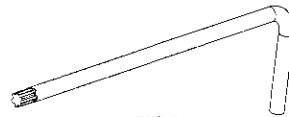

FIG.1
2. Remove the Torx screw, using the provided T-20 wrench. (FIG.1) Once the screw is removed, slide the LIFTOPERATOR up and away.